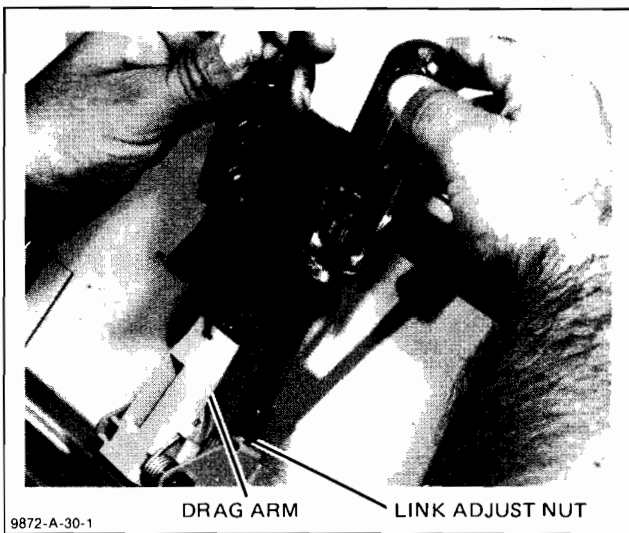

Figure A3-7. Drag Arm Adjustment
- a. Set the plotter LINE switch to the OFF (O) position.
- c. Press down on the tip of the drag arm with a gram gauge. See Figure A3-7.